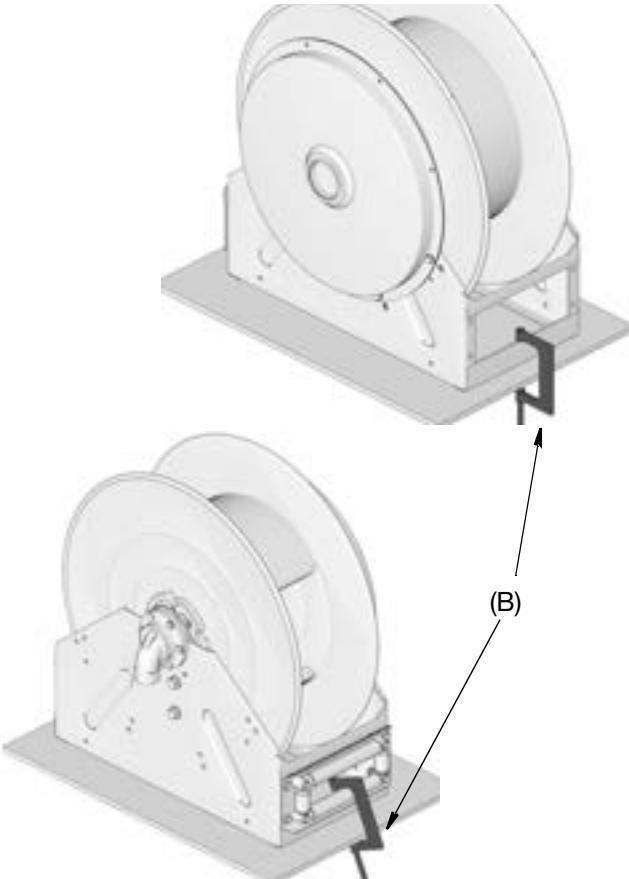

FIG. 5
1. If the hose reel is not installed in a fixed location, use 2, large c-clamps (B) (one on the front and one on the back) to secure the hose reel to a flat surface (FIG. 5). Place a rag over the bottom roller and the back frame to protect these surfaces from damage when the c-clamps are tightened down.